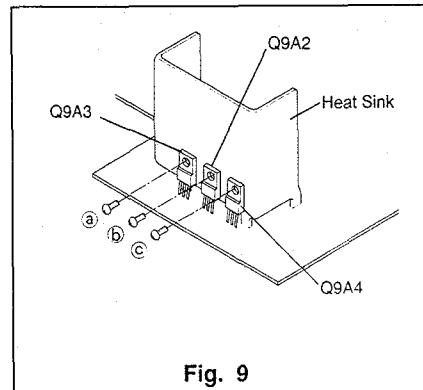

Fig. 9
- ⑥ To service the component side, remove three screws (ⓐ, ⓑ and ⓒ: 669D222O90) retaining the Heat Sink shown in Fig. 9.